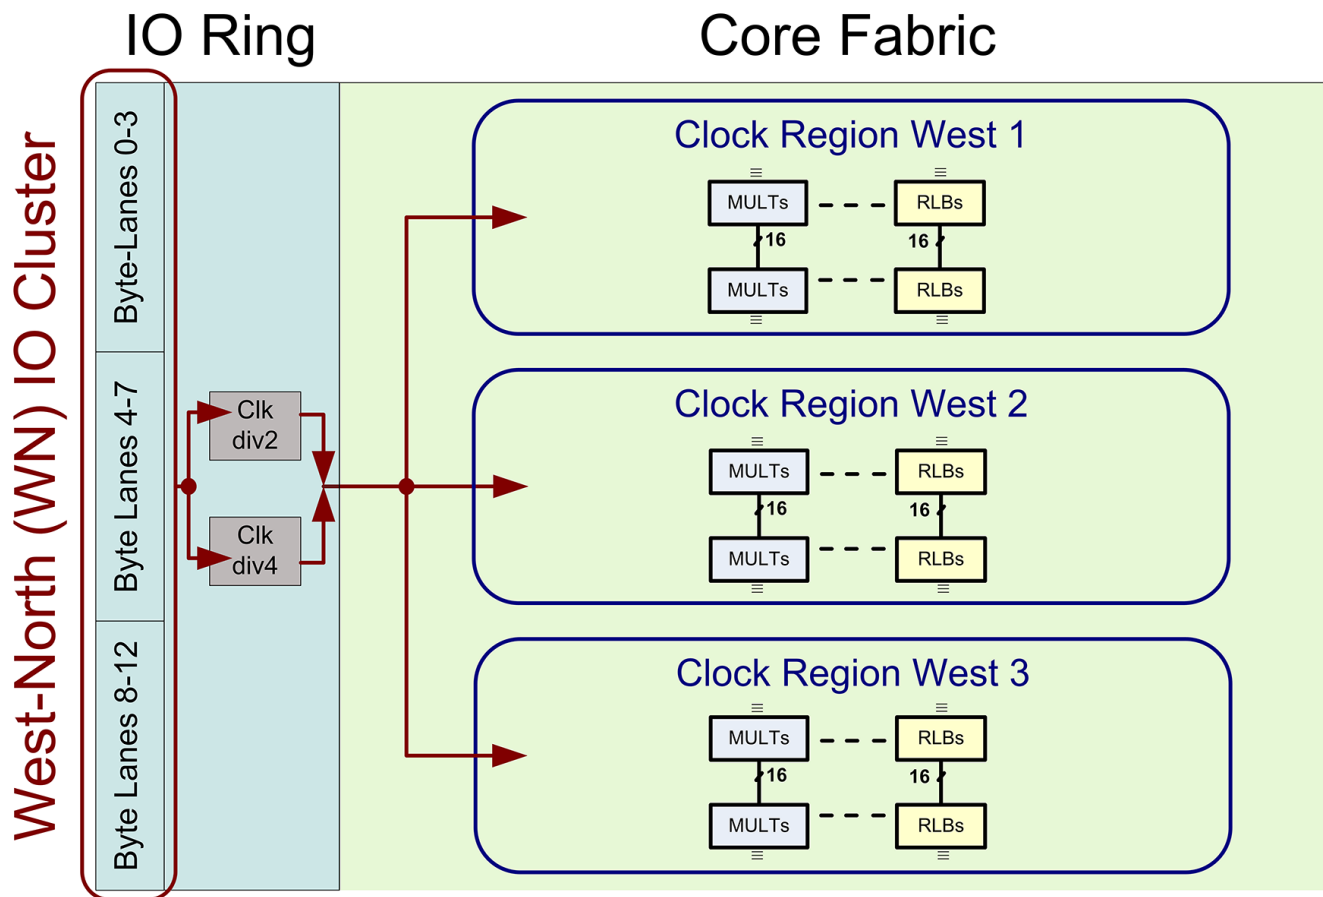

Figure 14: Byte-Lane Clocks in a Clock Region
Each corner of a Speedster22i FPGA has an individual Reset Input Block. This block receives external reset inputs as well as inputs generated internally within the device. External reset inputs can be driven by dedicated clock pads as well as a number of GPIOs located in the East-North (EN), East-South (ES), West-North (WN) or West-South (WS) sides of the device. Internal reset inputs are driven through data and clock paths in the logic fabric. Figure 14 below illustrates a Reset Input Block in the bottom-left corner of the device and the appropriate signals coming in to the block.